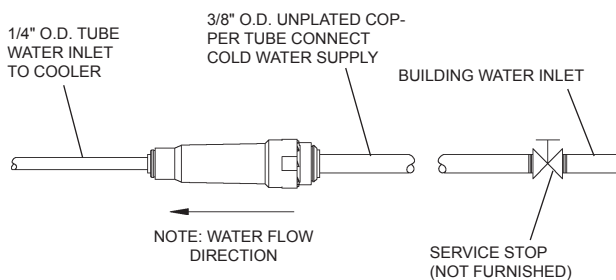

FIG. 1
3. **Remove bottom access panel** from fountain basin and save the screws. Install the fountain to the back panel and wall using (4) 5/16" bolts and washers (not provided). Bolts should be long enough to securely fasten the fountain to the wall. Tighten securely, but do not over tighten. Over tightening will crack the Marblyte Fountain.
4. **Remove elbow from end of p-trap** (item 1) and attach it to drain tube. Re-attach elbow to p-trap and cut waste tube to required length using plumbing hardware and trap as guide.
5. **Make water supply connections** from service stop to the fountain strainer (Item 16) by inserting the water inlet line into the inlet side of strainer until it reaches a positive stop about 3/4", (See Fig 1, Page 1). Turn on water supply and check for leaks. Newly installed water supply line should be insulated after leak check is completed. **DO NOT SOLDER TUBES INSERTED INTO THE STRAINER AS DAMAGE TO THE O-RINGS MAY RESULT.**